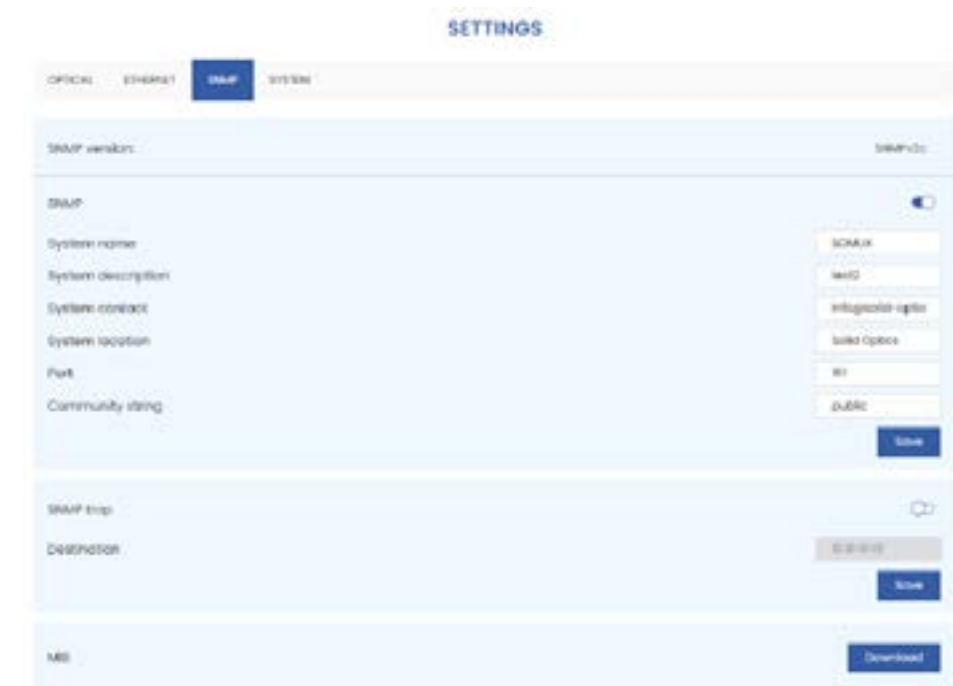

Figure 2
1. Configure System contact, System location, port, and the community string as necessary (see "Figure 2" p.8)